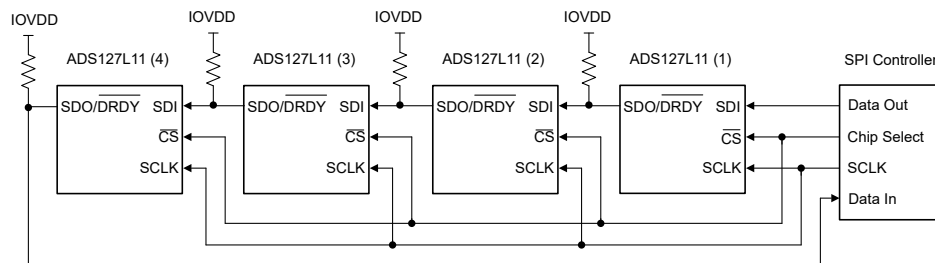

图 8-36. Daisy-Chain Connection
图 8-36 shows four devices connected in a daisy-chain configuration. The SDI of ADS127L11 (1) connects to the host SPI data out, and SDO/DRDY of ADS127L11 (4) connects to the host SPI data input. The shift operation is simultaneous for all devices in the chain. After each ADC shifts out the conversion data, the data of SDI appears on SDO/DRDY to drive the SDI of the next device in the chain. The shift operation continues until the last device in the chain is reached. The SPI frame ends when $\overline{CS}$ is taken high, at which time the data shifted into each device is interpreted. The SDO/DRDY pin must be programmed to data output-only mode.
图 8-38 shows the detailed input data sequence for the daisy-chain write register operation of 图 8-36. 40-bit frames for each ADC are shown (24-bits of data, with the STATUS and CRC bytes enabled). Command operations can be different for each ADC. The read register operation requires a second frame operation to read out the register data.
图 8-39 shows the clock sequence to read conversion data from the device connection provided in 图 8-36. This example illustrates a 32-bit output frame (24-bits of data, with the CRC byte enabled). The output data of ADC (4) is first in the sequence, followed by the data of ADC (3), and so on. The total number of clocks required to shift out the data is given by the number of bits per frame $\times$ the number of devices in the chain. In this example, 32-bit output frames $\times$ four devices result in 128 total clocks.